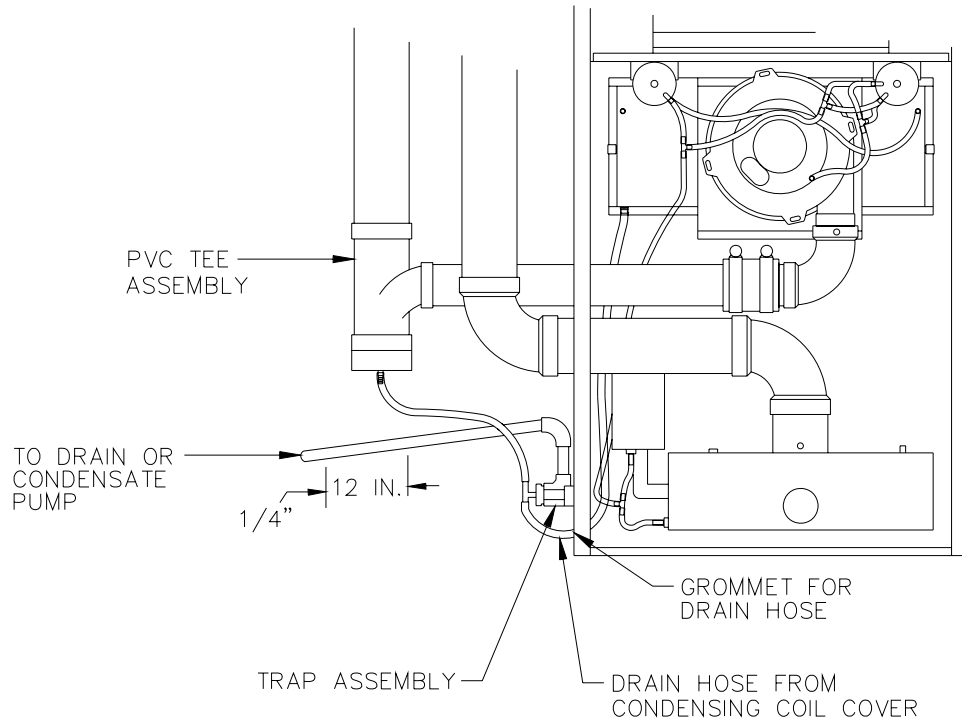

Figure 15. TRAP ASSEMBLY MOUNTED ON CDX3
4. Measure the drain hose (11/16" o.d. clear tubing) provided and remove any extra length, making sure that the hose has sufficient length not to kink or otherwise be restricted once installed. Attach the drain hose (11/16" o.d. clear tubing) to the other side of the condensate trap tee. On CHX3/CDX3's, this hose is shipped in the parts package and it will be necessary to attach the other end to the PVC drain tee assembly (see Figure 15). Use the silver clamp(s) provided in the parts package to secure all connections.